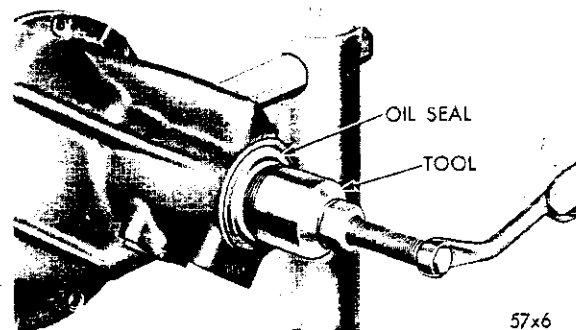

Fig. 11—Removing Pinion Bearing Oil Seal
(9) Install the oil seal puller Tool C-748 by screwing it securely into the pinion oil seal (Fig. 11) and tighten the puller screw to remove the seal.
(10) While holding one hand over the companion flange end of the carrier, invert the carrier in the stand. The oil slinger, front bearing cone shim pack and bearing spacer (where used) will drop from the carrier.
(11) Withdraw the pinion and rear bearing cone from the carrier.